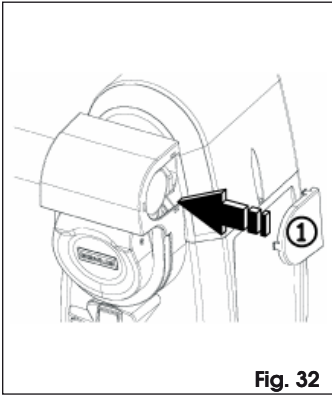

Fig. 32
- Position the rear plug of the release housing (Fig. 32 ref. ①)